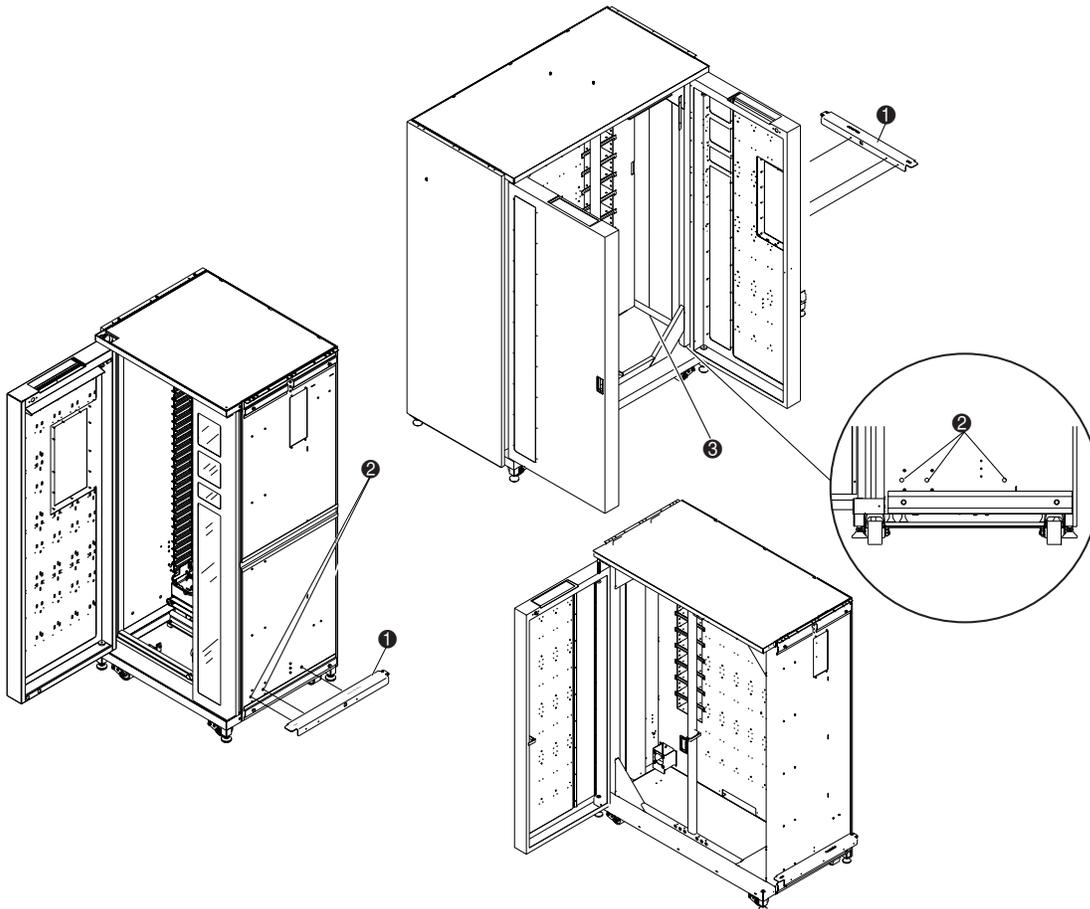

Figure 2-3. Installing the lower cabinet attachment channel (left tape library)
6. Install the lower cabinet attachment channel on the left library (❶ Figure 2-3) using three bolts (P/N 0615113) and washers (P/N 0685521). Do not fully tighten. Allow the lower cabinet attachment channel to float freely.